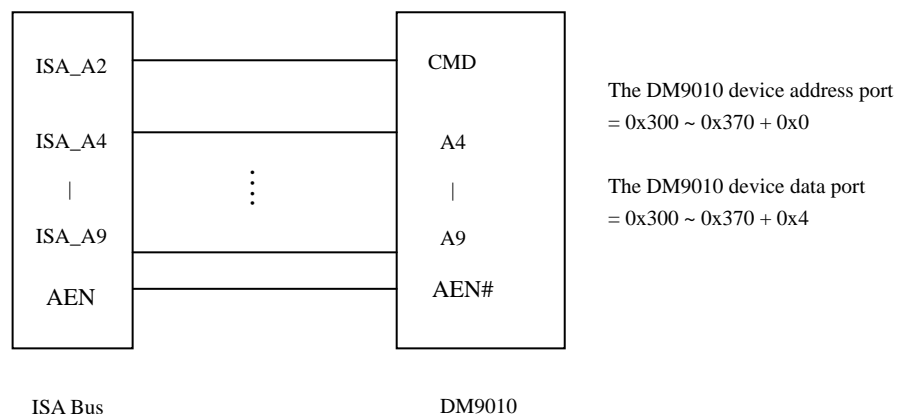

Figure 2.2 DM9010 CMD Pin and ISA Bus.
The following diagram (Figure 2.2) is an example for the CMD pin (92) connecting to ISA bus.